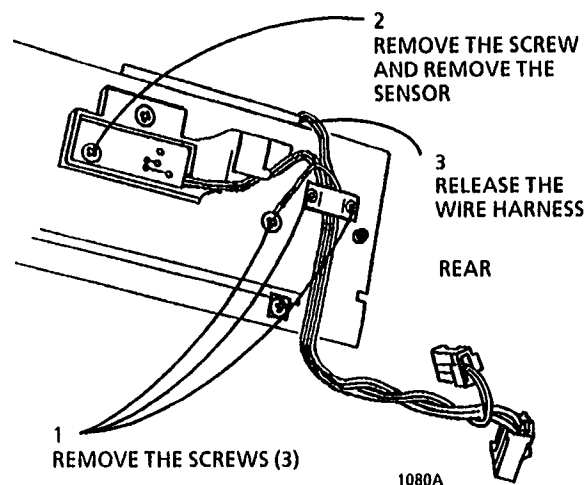

Figure 1. Removing the Auto Exposure Sensor (CR1)
4. (Figure 1): Remove the auto exposure sensor.